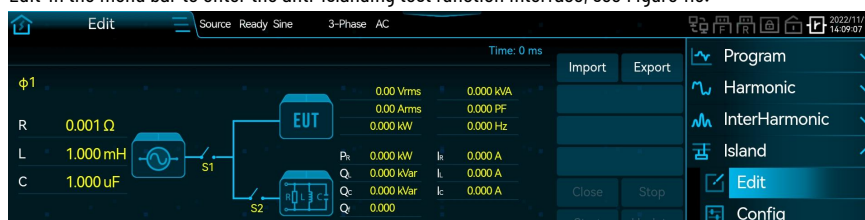

Figure 116 Anti-islanding Test Function Interface Diagram
- 1) Click 'Island - Edit' in the menu bar to enter the anti-islanding test function interface; see Figure 116.